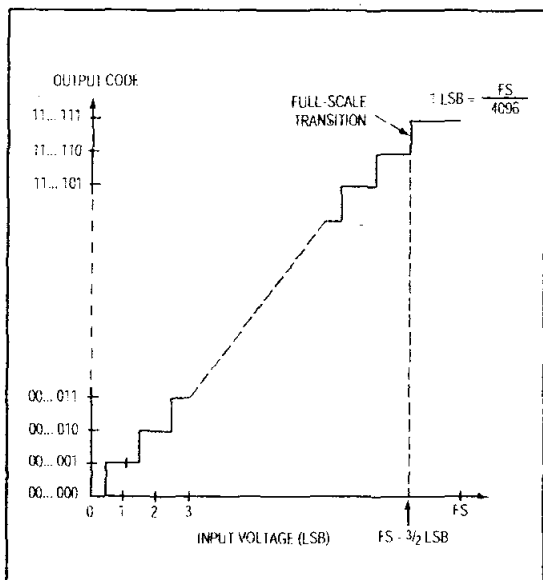

Figure 10. Unipolar Transfer Function
Output data coding for the MAX196/MAX198 is binary in unipolar mode with $1\text{LSB} = (FS / 4096)$ and two's-complement binary in bipolar mode with $1\text{LSB} = \{ (2 \times |FS|) / 4096 \}$. Code transitions occur halfway between successive-integer LSB values. Figures 10 and 11 show the input/output (I/O) transfer functions for unipolar and bipolar operations, respectively. For full-scale (FS) values, refer to Table 1.